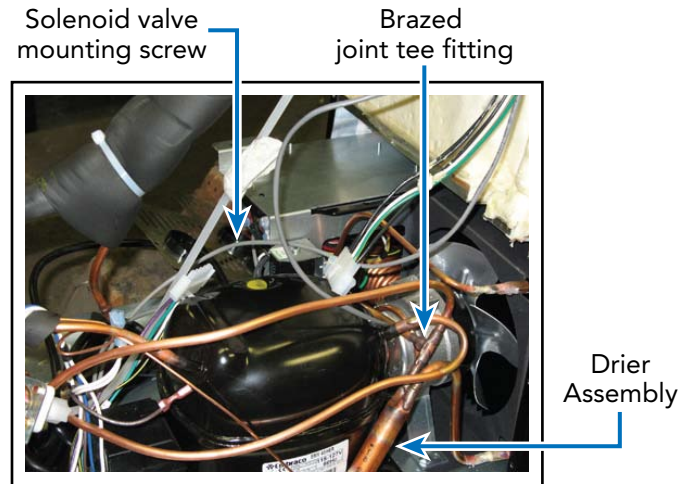

Figure 4
10. Disconnect wires at solenoid, remove solenoid retaining screw, and remove solenoid, (see **Figure 4**).
13. Unbrazed the drier assembly at the end of the condenser (see **Figure 4**). Be sure to cap off after cooling.
24. Unbraid and remove drier assembly at condenser (see **Figure 4**).
13. Unbrazed tube from hot gas valve at the tee fitting on drier assembly (see **Figure 4**)